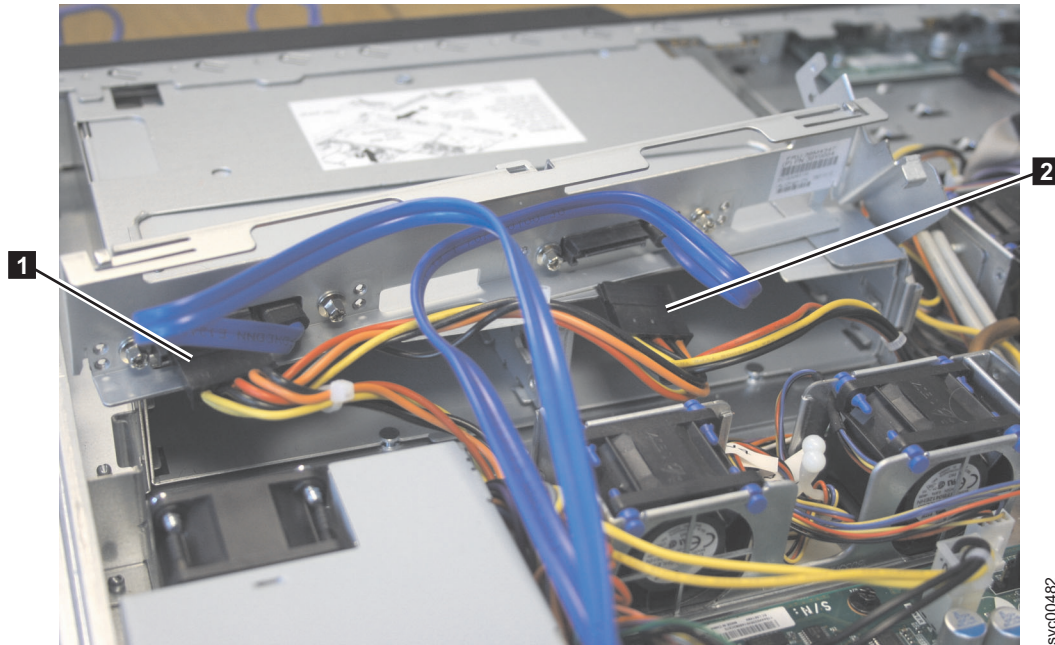

Figure 116. SAN Volume Controller 2145-8A4 power supply connectors
10. Slightly lift the backplane out of the node. Disconnect power cable connectors P2 **1** and P3 **2**, shown in Figure 116 on page 129, and remove the backplane.